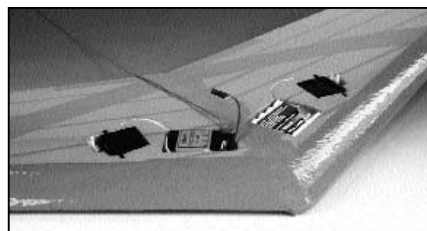

fig. 9
□8. Your R/C installation should now appear as in fig. 9.